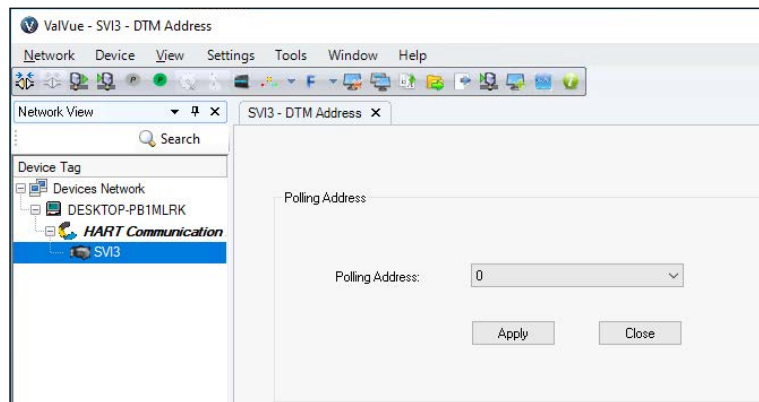

Figure 21 Communication Tab
- Right-click on the device in the topology pane, select **Additional Functions > DTM Address** and Figure 21 appears. Correct the *Polling Address* and click **Apply**. Disconnect and then reconnect.